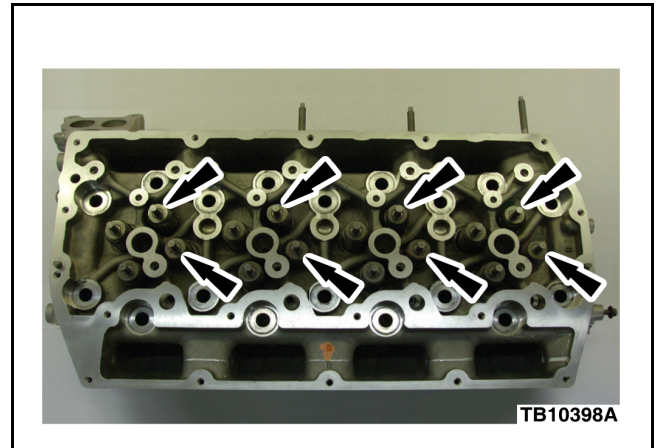

Figure 1 - Article 13-5-9
4. Replace all eight (8) exhaust valves and valve seals. Refer to WSM, Section 303-01. (Figure 1)